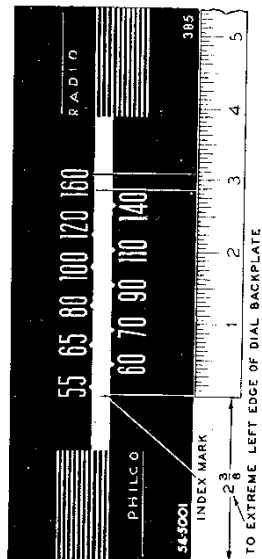

Figure 7. Dial-Backplate Calibration Measurements
**DIAL** — Calibration and pointer-index measurements are shown in figure 7. With tuning condenser fully meshed, set pointer to index mark.
When the radio chassis has been removed from the cabinet, dial-calibration and alignment points should be marked on the backplate. The method of marking for these points is illustrated in figure 7. Hold a ruler against the backplate, with the start of the ruler at the reference line shown, and mark pencil dots at the proper points for the required frequency settings. When the ruler is correctly placed, the index mark is approximately
2-5/8 inches from the reference point indicated in figure 7. With the tuning gang fully meshed, the pointer should be adjusted on the dial-drive cord to coincide with the index mark. The dial-drive cord is located inside the cabinet; the pointer should be moved to coincide with the index mark. Coincidence of the pointer and index mark should occur with the tuning condenser fully meshed.